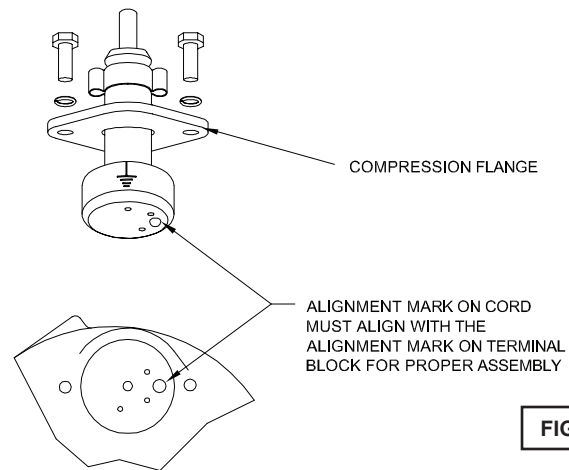

FIGURE 6
Power/Control Cable- Refill the cooling oil as outlined in paragraph F-1.4. Make wire connections as outlined in paragraph F-3.3. Insert female end of cable plug into housing bore aligning timing mark with hole in terminal block (37) (43) (see Figure 6). Compress cable plug with compression flange (35a)(42a) by tightening cap screws (17) into the housing (5). Torque to 132 in-lbs.